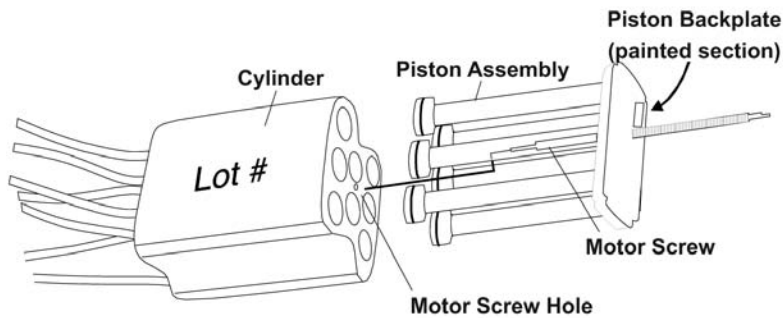

Figure F.2.3d: Reassemble Piston/Cylinder Assembly
1. Reinsert the piston assembly into the lubricated cylinder. Ensure that the motor screw engages into the hole in the center of the cylinder (see Figure F.2.3d).